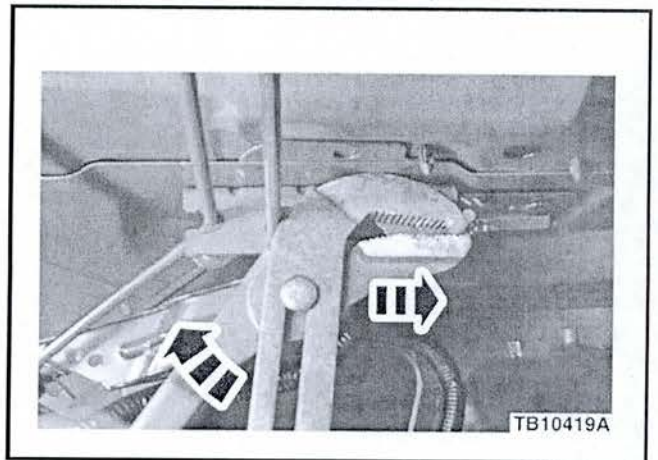

Figure 2 - Article 13-5-18
7. Hold torsion bar using large tongue and groove pliers, or equivalent. (Figure 2)
- a. Release tension by allowing the tongue and groove pliers to slowly rotate forward. (Figure 2)